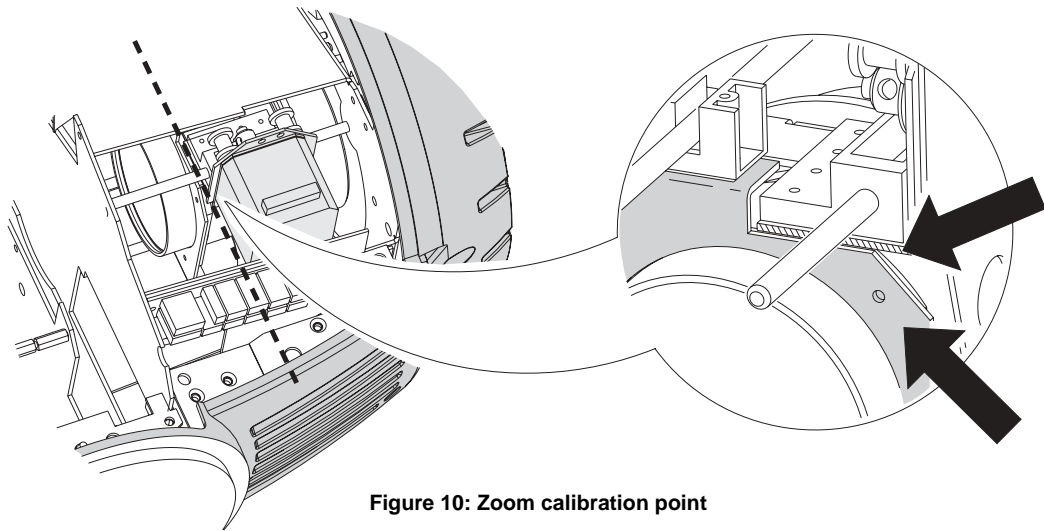

Figure 10: Zoom calibration point
- 2 To calibrate zoom, first remove the bottom head cover. Select UTIL / CAL / ZOOFF and press [Enter]. Adjust the offset until the face of the zoom lens plate is flush with the back edge of the focus plate (Figure 10). Press [Enter] to save the setting. Replace the bottom head cover.